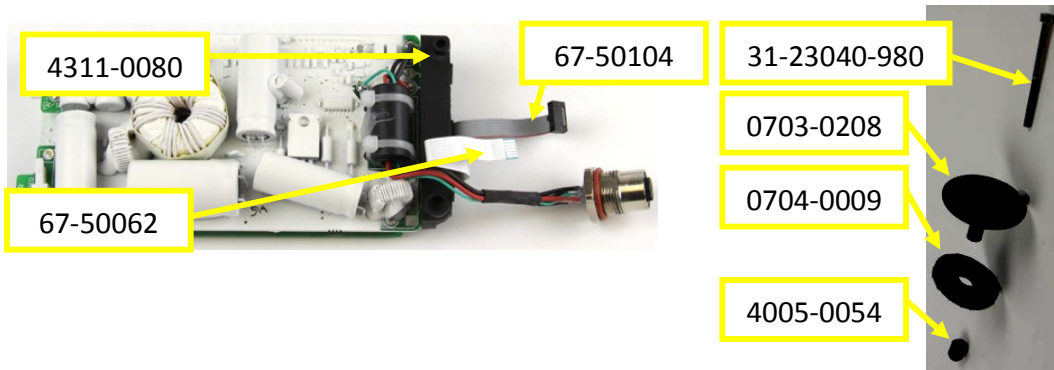

Figure 30: Parts of the Main PCB
- The main PCB of the F3 COMPACT is a line replaceable unit and this section of the manual describes the procedure for its replacement. Figure 30 shows the main parts associated with the main PCB.